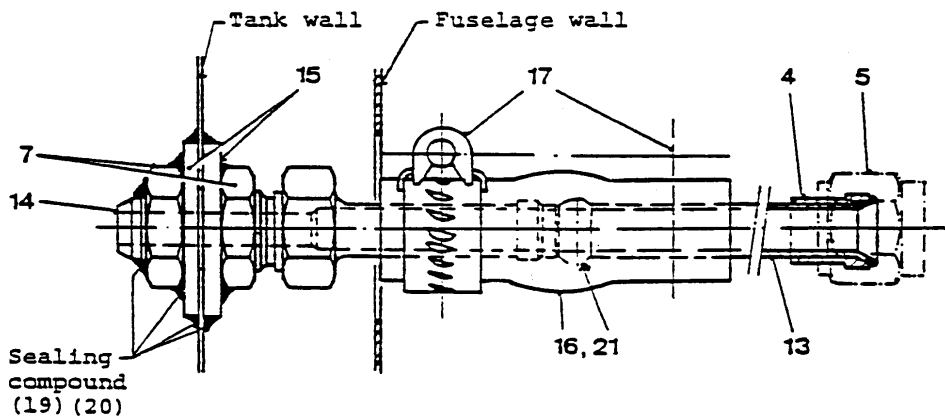

Fig. 4 Tank wall insertion
- Enlarge the hole in the fuselage wall to 1.34 in. dia. each side (Fig. 4).
- Enlarge the hole in the root rib (fuel tank wall) to 0.57 in. dia. and completely clean the inner surface within approx. 1.6 in. dia. of residual sealing compound, to obtain proper contact surfaces for the new fittings (Fig. 4).
- Install the vent fitting in both root ribs as illustrated in Fig. 4. Apply sealing compound (19) to the cleaned washers (15) surfaces, install the nuts and coat the parts with sealing compound (19) with two or three layers. Following a curing period of at least 24 hours, apply protective coating (20) with two layers. Allow to dry for approx. 6 hours between layers.
- Install rubber sleeves (16), 3/8" lines (115.55.06.232) and T-fitting (6); apply sealing compound (18) to the washer (8) when installing the T-fitting and use a lubricant (21) when installing the rubber sleeves.
- Install the stand pipe (115.55.06.208), ensure the grommet (3) is properly bonded to the upper section of the tube.
- Install the fairing (1) using sealing compound (18) to the flange surface and to the screws and washers in order to prevent contact corrosion.